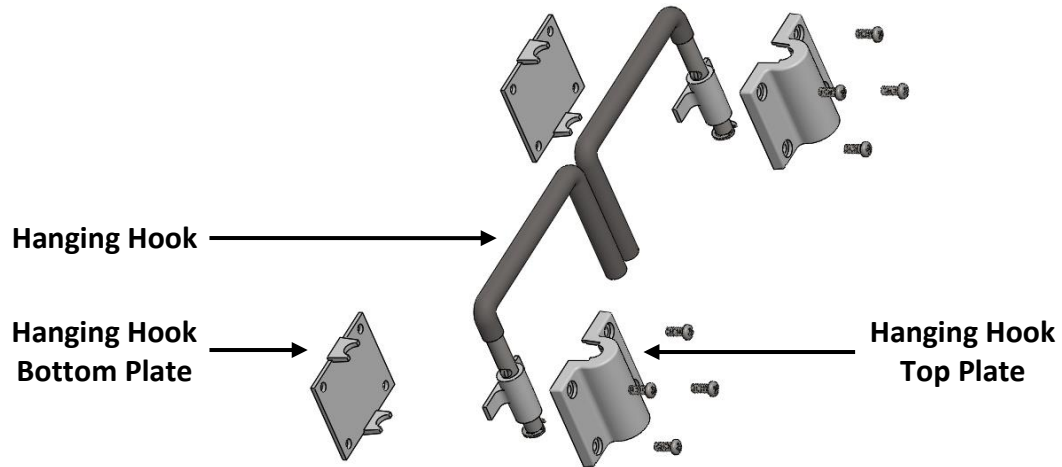

Fig: 6
1. Remove the four screws from the hanging hooks and then remove the hanging hooks from the power unit. (Fig: 6)